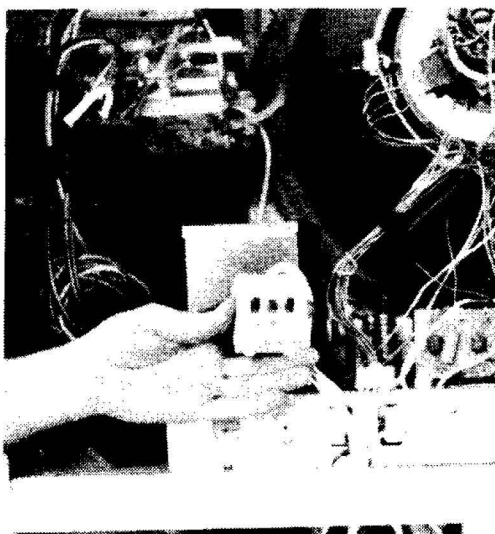

Fig. 8-14. Color grid-bias box, used to cut off various guns during alignment.
In the actual alignment process, the green and blue guns are first cut off with a color-grid bias box. (See Fig. 8-14.) The output of a standard NTSC color-bar generator is coupled into the receiver, either through the antenna input terminals (RF) or through the video detector (video output of the generator). A single red bar will appear on the screen, as shown in Fig. 8-15A; if the bar is unevenly shaded, try adjusting the controls as mentioned previously, in addition to advancing the contrast control to maximum. (Once the proper setting has been found,